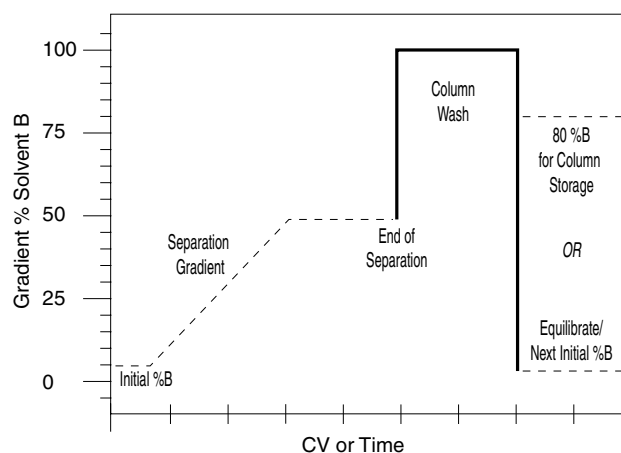

Figure 1. Post-run column flushing.
With proper care, RediSep C18 columns may be used thirty times or more. Reversed-phase methods should be written so that at the end of the separation, the column is washed with 2–4 CV of a high percentage (100%) of the organic (B) solvent. After 2–4 CV of wash, the percent organic can be returned to the starting condition for 2–3 CV to anticipate the next run column equilibration conditions (see Figure 1). Alternatively, the percent organic can be changed to 80% in anticipation of column storage.